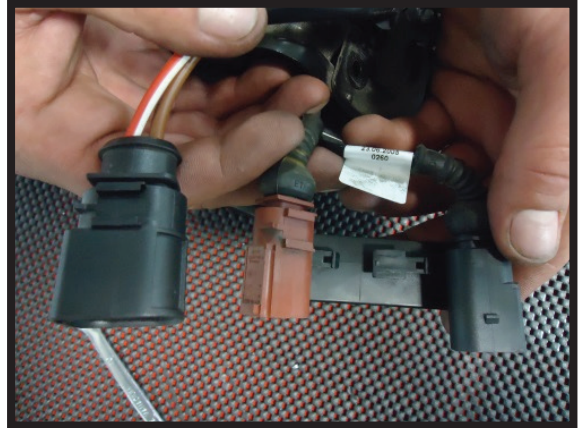

FIGURE 11
2. Remove the wiring harness and plugs from the mounting clips. (FIGURE 11)